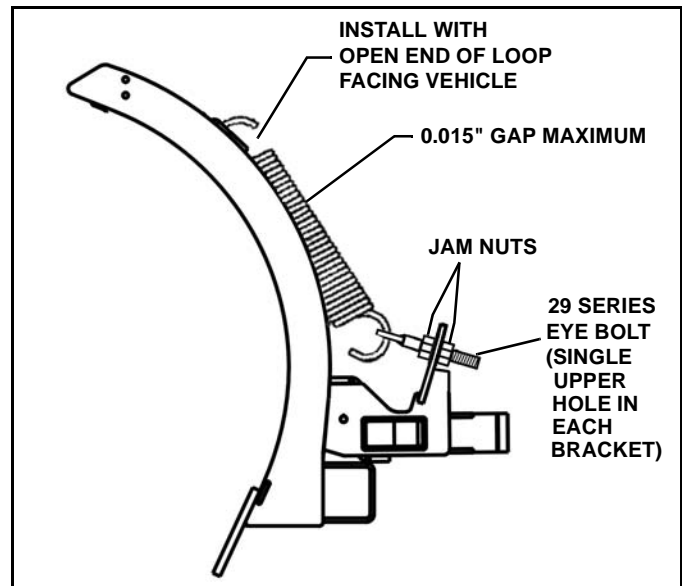

Figure 2-3
**4b. 29SKD SERIES BLADE ONLY:** Three eyebolt mounting holes are present in each swing frame spring bracket on this model. Only one spring and eyebolt are used on each side of the plow, and must be secured in the single upper hole of each spring bracket. A jam nut on either side of the spring bracket secures each eyebolt and provides for adjustment. (See Figure 2-3).